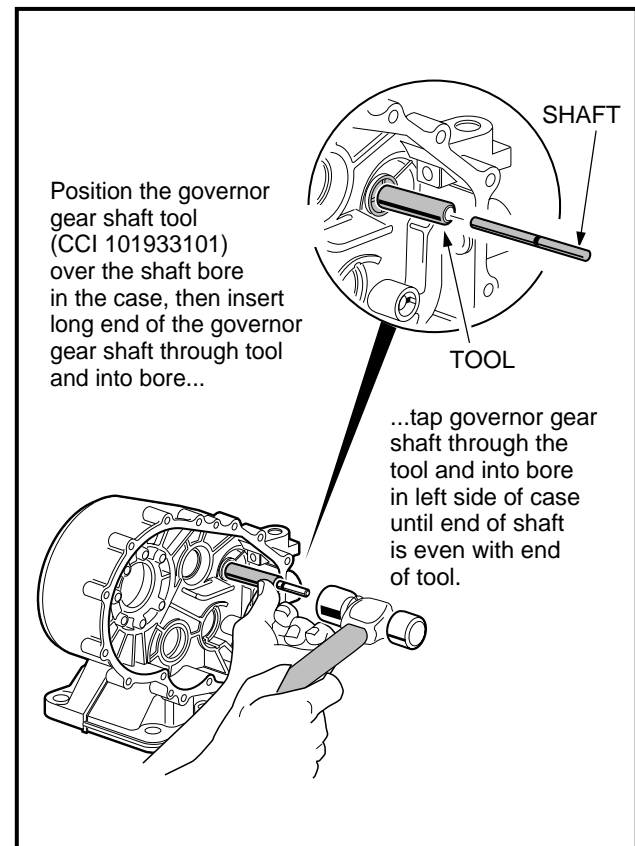

Figure 16-67 Governor Gear Shaft
3. Position the governor gear shaft installation tool (CCI 101933101) over the shaft bore in the inside of the left (driver) side case and insert the governor gear shaft into the tool, long end (from the groove) first, as shown (**Figure 16-67, Page 16-30**). Make sure the shaft is started into the bore and then, using a plastic or rubber hammer, carefully tap the governor gear shaft into the bore until the end being tapped is flush with the end of the tool. Remove installation tool.